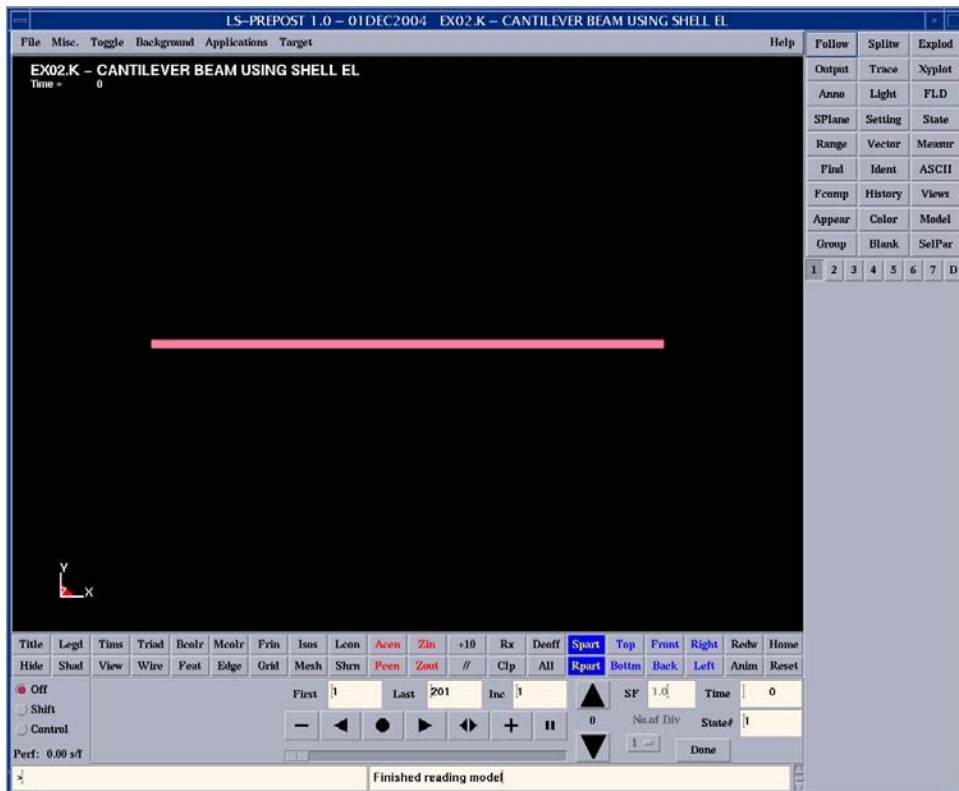

Figure 7: Display the model from d3plot.
4. The model is now displayed in the *Graphics Area* (Figure 7).